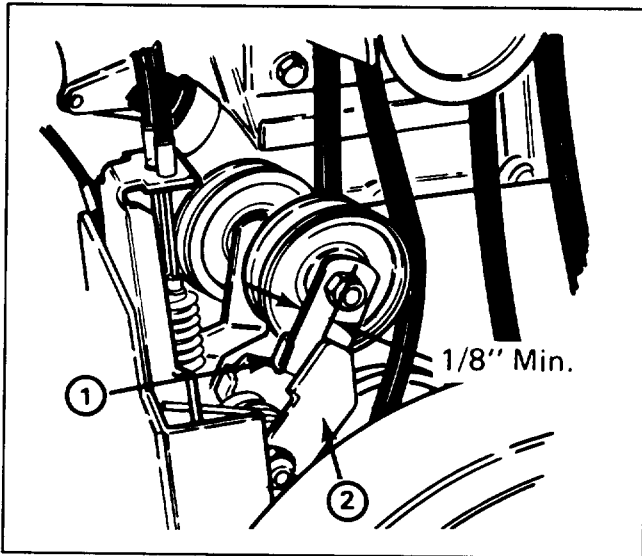

Figure 27
3. Check idler and brake adjustment. There should be a minimum clearance of 1/8" between tab on impeller idler arm and brake arm (Fig. 27). If there is less than 1/8" clearance, belt must be replaced.